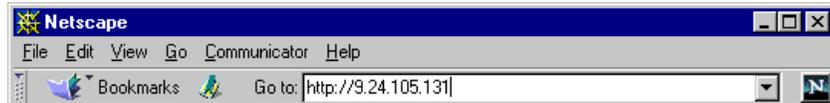

Figure 215. Enter the ASM PCI adapter IP Address
1. Fire up your Web browser and point it to the IP address of the ASM PCI adapter installed in the Netfinity 7000 M10 as shown in Figure 215: